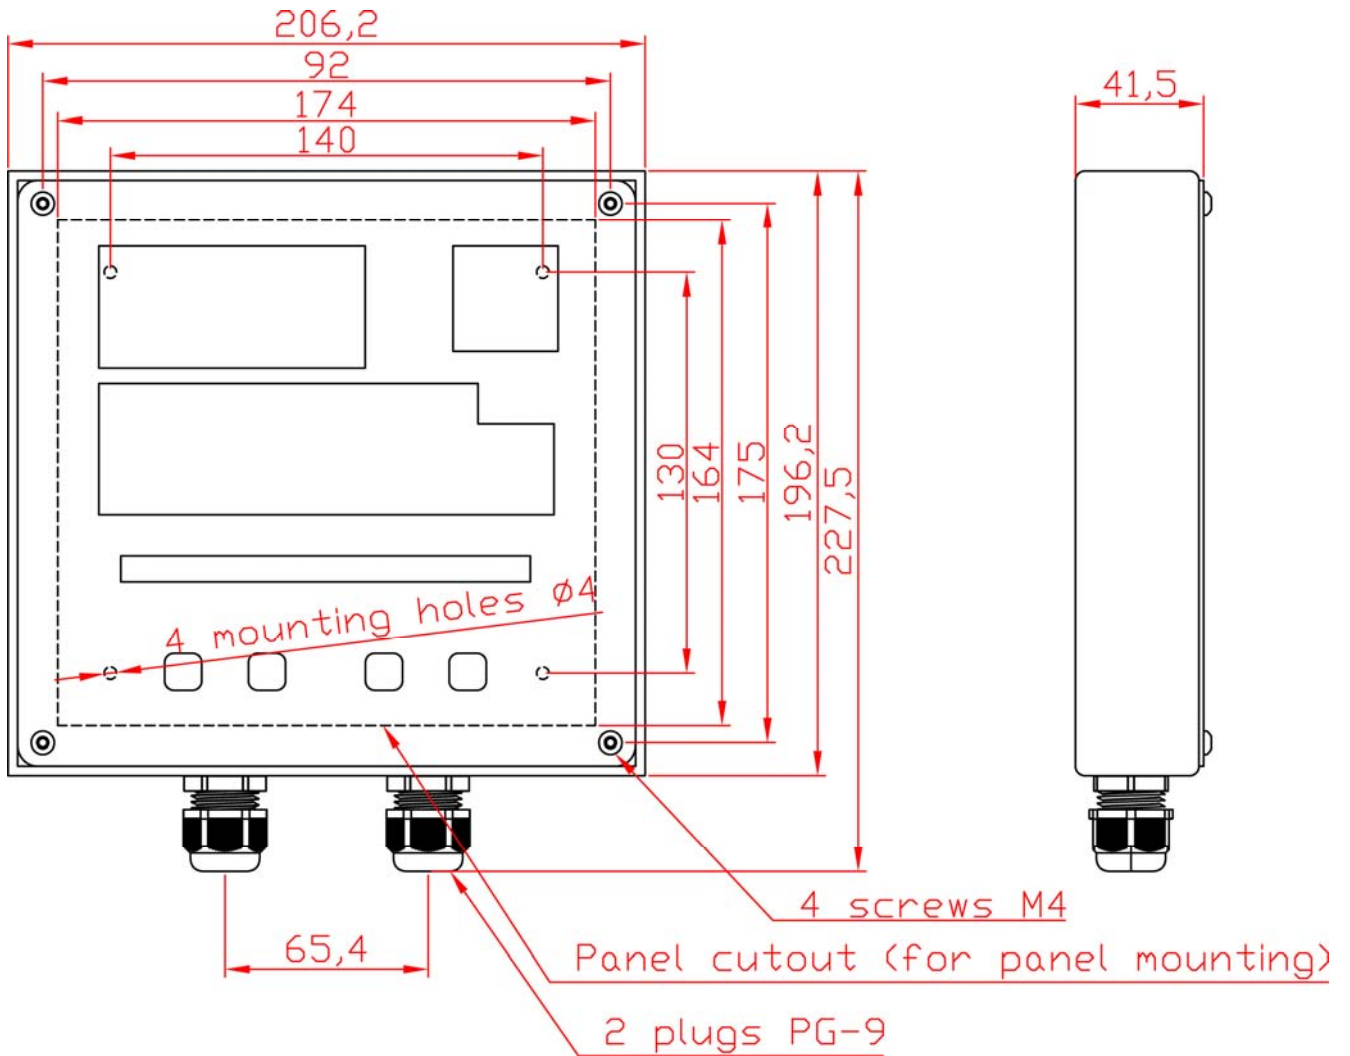

Figure 1 DR-109 dimension drawing.
Holes on a back of the case are used for installation on a wall (see Figure 1). Also place plugs in the holes on a bottom of the device's case.
- Make rectangular cutout in panel and mounting holes according to the drawing (see Figure 1).